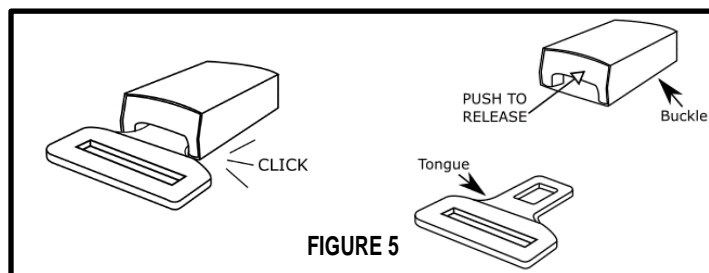

FIGURE 5
2. To "Buckle Up" slide the tongue into the slot at the open end of the buckle. It is correctly engaged when you hear a positive "click" as shown in figure 5.
You should be able to slide your hand between your body and the belt. Be comfortable, but please keep in mind that "too tight" is better than "too loose". To release the belt, push the button in the centre of the buckle while applying a slight forward body pressure as shown in figure 5.